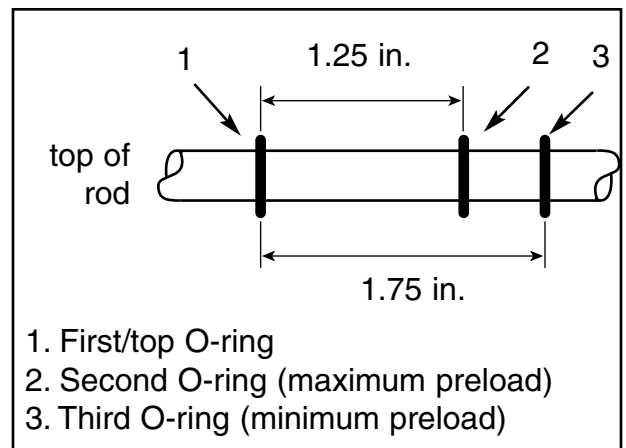

Figure 2 Measuring Tool
- e. See Figure 2. Position the two other O-rings as shown.